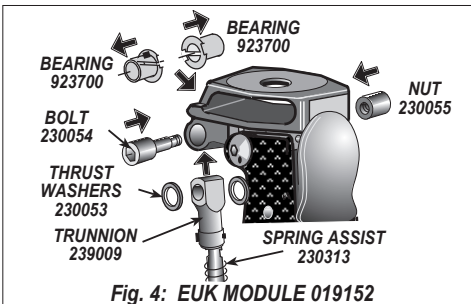

Fig. 4: EUK MODULE 019152
6. For EUK and EUK 4 Bolt (Fig. 4 and 5) only.